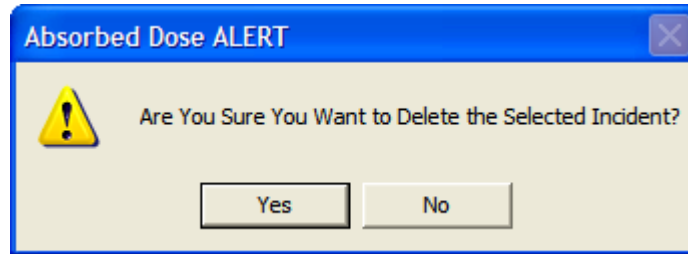

Figure 9-9
1. To delete the selected incident, verify that the desired incident is highlighted in the Incident list box and click the **Delete Incident** button. If the selected incident is not the currently active incident, Figure 9-9 will appear.
To delete the currently active incident, select (highlight) a different incident and click the **Select Incident** button. The Incident Setup Screen will re-appear displaying the parameters for the selected incident. Click the **Select Incident** button on the Incident Setup Screen. Figure 9-7 Incident Selection Screen will re-appear. Highlight the desired incident and press the **Delete Incident** button. Figure 9-9 will appear.